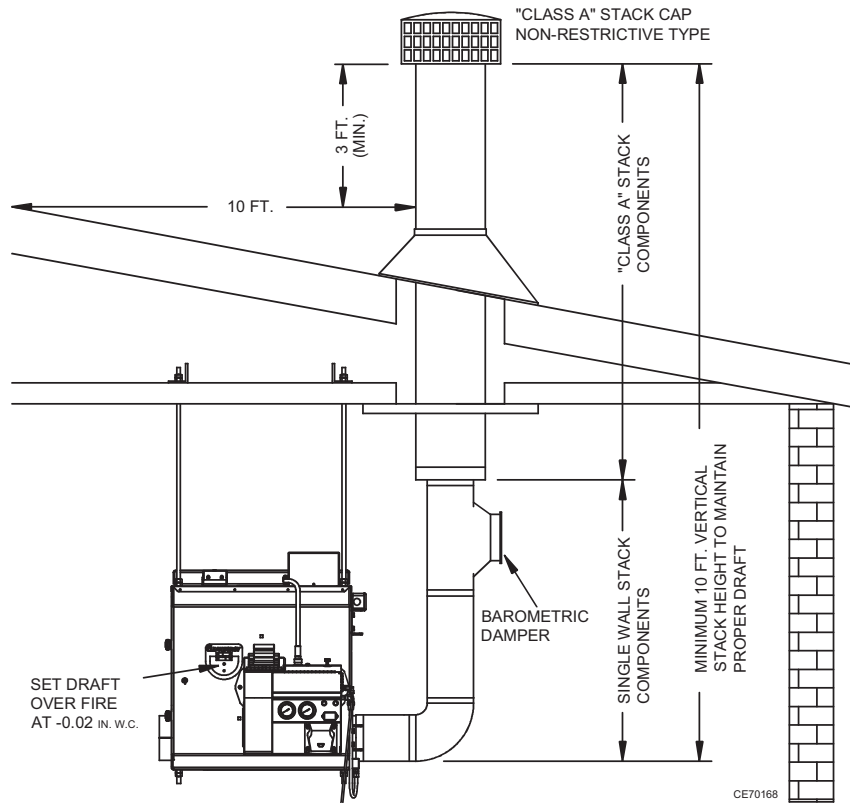
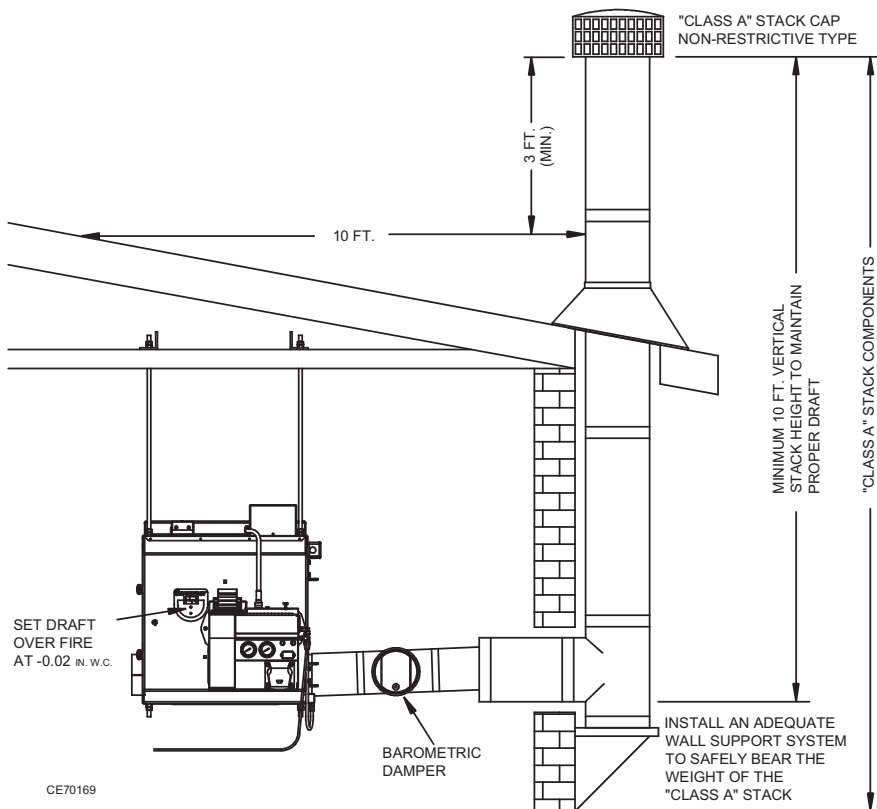

Figure 14: Typical Through-the-Roof Chimney Illustration
Figure 15: Typical Through-the-Wall Chimney Illustration
- (1) Refer to Figure 14 for a typical through-the-roof chimney illustration and Figure 15 for a typical through-the-wall chimney illustration.
- (2) Observe the following requirements when installing the chimney:
- (3) Single wall stack may be used inside the building. Observe proper clearances from combustibles. Do not put single wall stack in areas that may create a burn hazard to personnel.
- (4) Install a barometric damper, as shown in Figures 15 and 16, so that proper draft can be maintained. Follow the instructions provided with the damper for proper installation.
- (5) Use double wall “Class A” insulated stack material when making a penetration through the ceiling, roof or side wall of your building. Install proper flashing around the exterior penetration of the stack to make a water tight seal.
- (6) Install a “Class A” non-restrictive stack cap only.